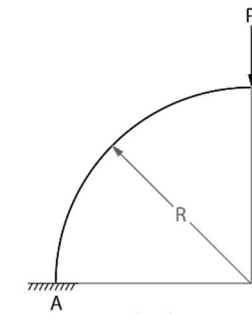

FIG. NO. 3
- OR iii. Find the vertical and horizontal deflections of point B of the quadrant ring AB having radius 'R' shown in the Fig. No. 3 by unit load method. Take EI constant. **7**